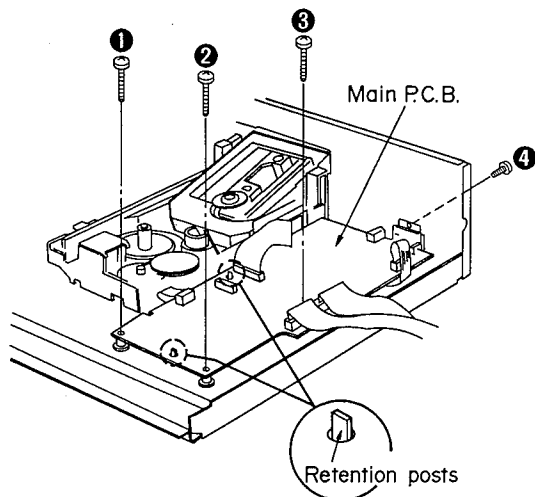

Fig. 1
4. Remove the 4 screws (①~④) as shown in Fig. 1.